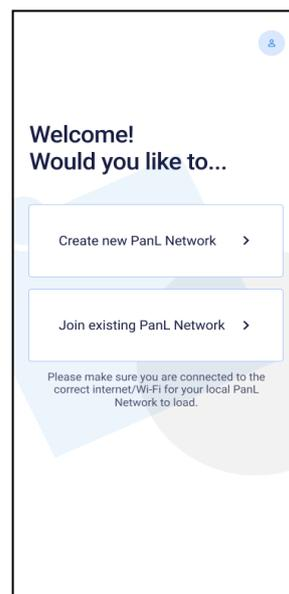

Figure 2 - PanL Network Setup Screen
1. If the hub is not automatically detected on the *Create New PanL Network* page (see Figure 2), the user can manually add it by selecting the option [**Add PanL Hub Manually**].